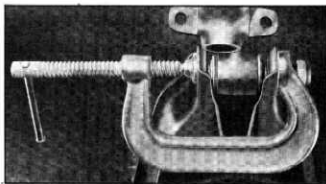

Fig. 20—Indexing Threads of Pivot and Lower Control Arm
4. If the threads do not index properly, place a "C" clamp over ends of control arm and compress the ends slightly trying the threads as you proceed (fig. 20). It will be found that very little compression will allow the threads to index properly.